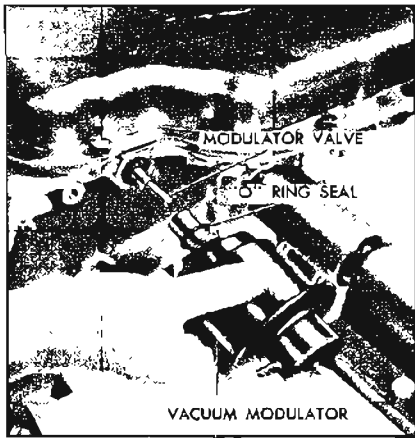

Figure 5-502
5. Remove modulator assembly and "O" ring seal from case. See Figure 5-502.